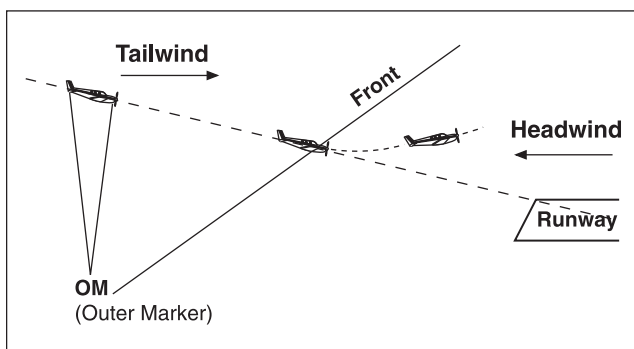

Figure 6-16. Tailwind shearing to headwind or calm
1. **Loss of Tailwind** — A tailwind may shear to either a calm or headwind component. In this instance, initially the airspeed will increase by an amount equal to the change of wind velocity, the aircraft pitches up, and altitude increases. Lower than normal power would be required initially, followed by a further decrease as the shear is encountered, and then an increase as glide slope is regained. See Figure 6-16.